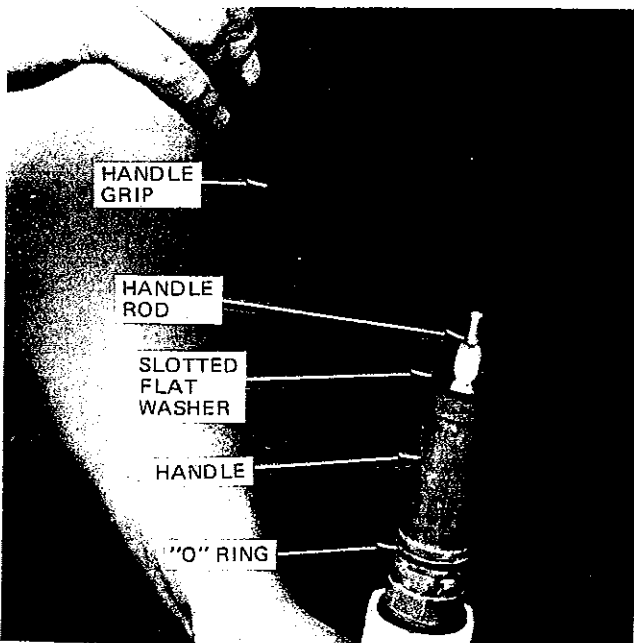

Figure 33
- b. Pull off the handle grip, remove the slotted flat washer, and pull out the handle (Figure 33).